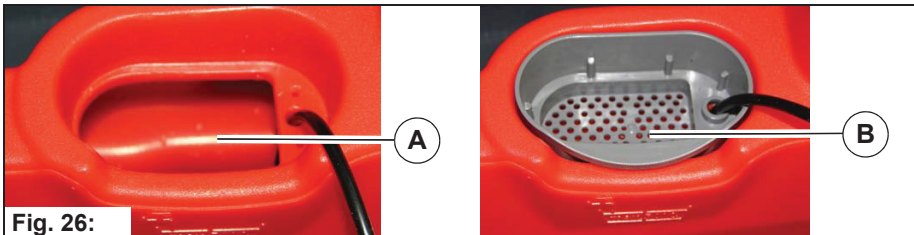

Fig. 26:
3. Remove the insert of the filling opening **Fig. 26-A**.
5. Add detergent according to the manufacturer's regulations via the sieve insert **Fig. 26-B**.